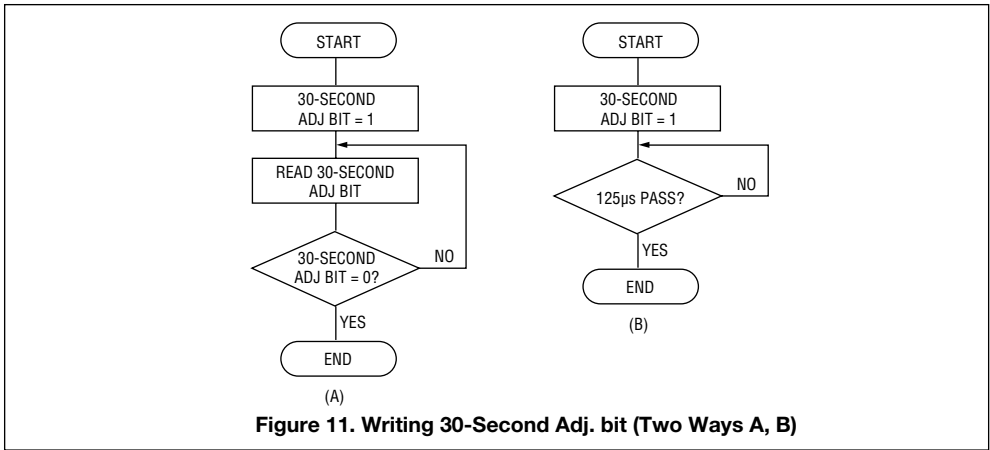

**Figure 10. Reading and Writing of Registers S1 ~ W**
- b) BUSY (D1) – Status bit which shows the interface condition with microcontroller/microprocessors. As for the method of writing into and reading from S1 ~  $\bar{W}$  (address  $\phi \sim C$ ), refer to the flow chart described in Figure 10.